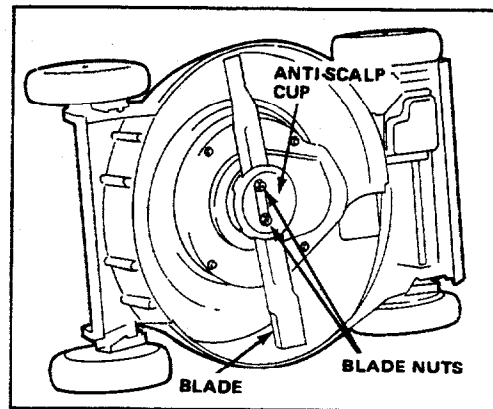

Figure 22
3. Tip mower on its right side (Fig. 22).
5. REMOVING BLADE—Grasp end of blade using a rag or thickly padded glove. Remove blade nuts, anti-scalp cup, blade, blade spacer, and rotating screen (Figs. 22 & 24).